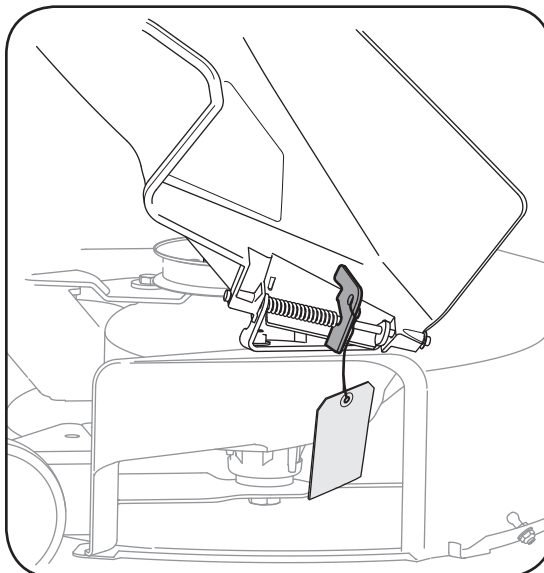

Figure 3-2
- Locate the shipping brace, if present, and accompanying warning tag found on the right side of the mower, between the discharge chute and the cutting deck. See Figure 3-2.